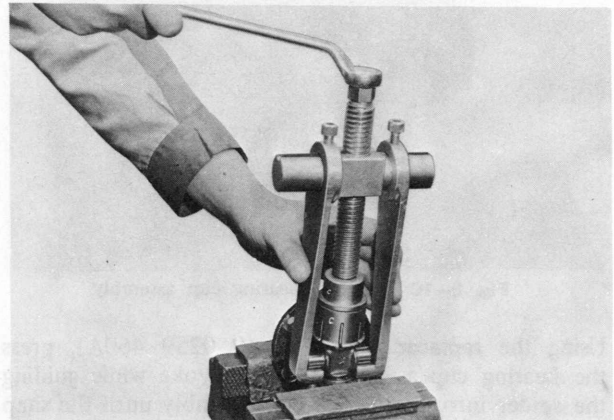

Fig. 8-8 Removing bearing cup
9. Position the replacer on the yoke as shown in Fig. 8-8 and remove the bearing cup in the same manner.